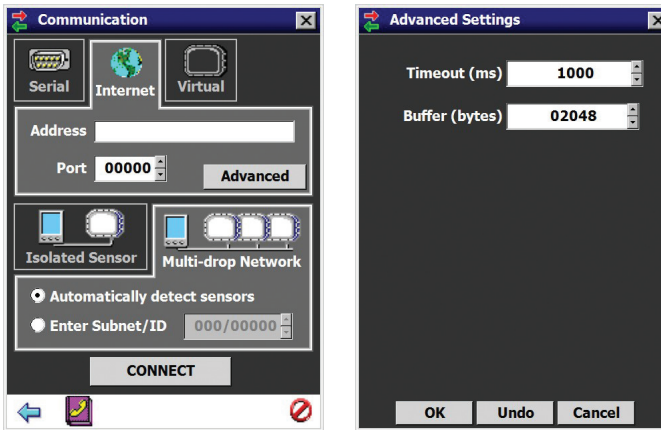

Figure 4.5 - Internet Connection (left) and Advanced Settings (right)
- 2 Click the Internet tab and the Internet setting options will appear (see Figure 4.5).